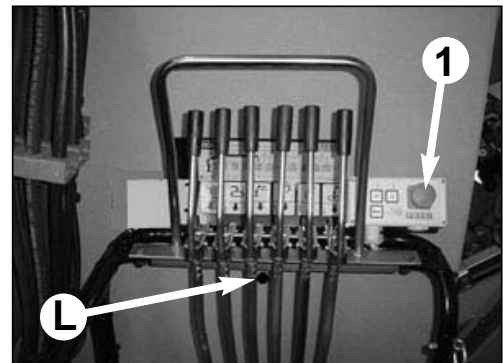

fig. 15
On the control panel, further to the control levers and to the plates, we can find the supplementary electric control panel (fig. 15 pos. 1).
The operator's presence in the stand-up control station activates photocell L (fig. 15) that automatically prevents the crane from rotating above the station and activates the flashing of the green light in the different control panels near the plate DE5775 (fig. 16b).
Before accessing the stand-up control station make sure that the photocell L pilot-light (fig. 15) is turned on and green; then check its correct functioning: if put your hand in front of the photocell the pilot-light shall turn yellow (thus enabling the limitation of the rotation path). Besides, when entering the stand-up control station, before starting the crane operation, check that the limitation of the rotation path is active, see the flashing of the green light.